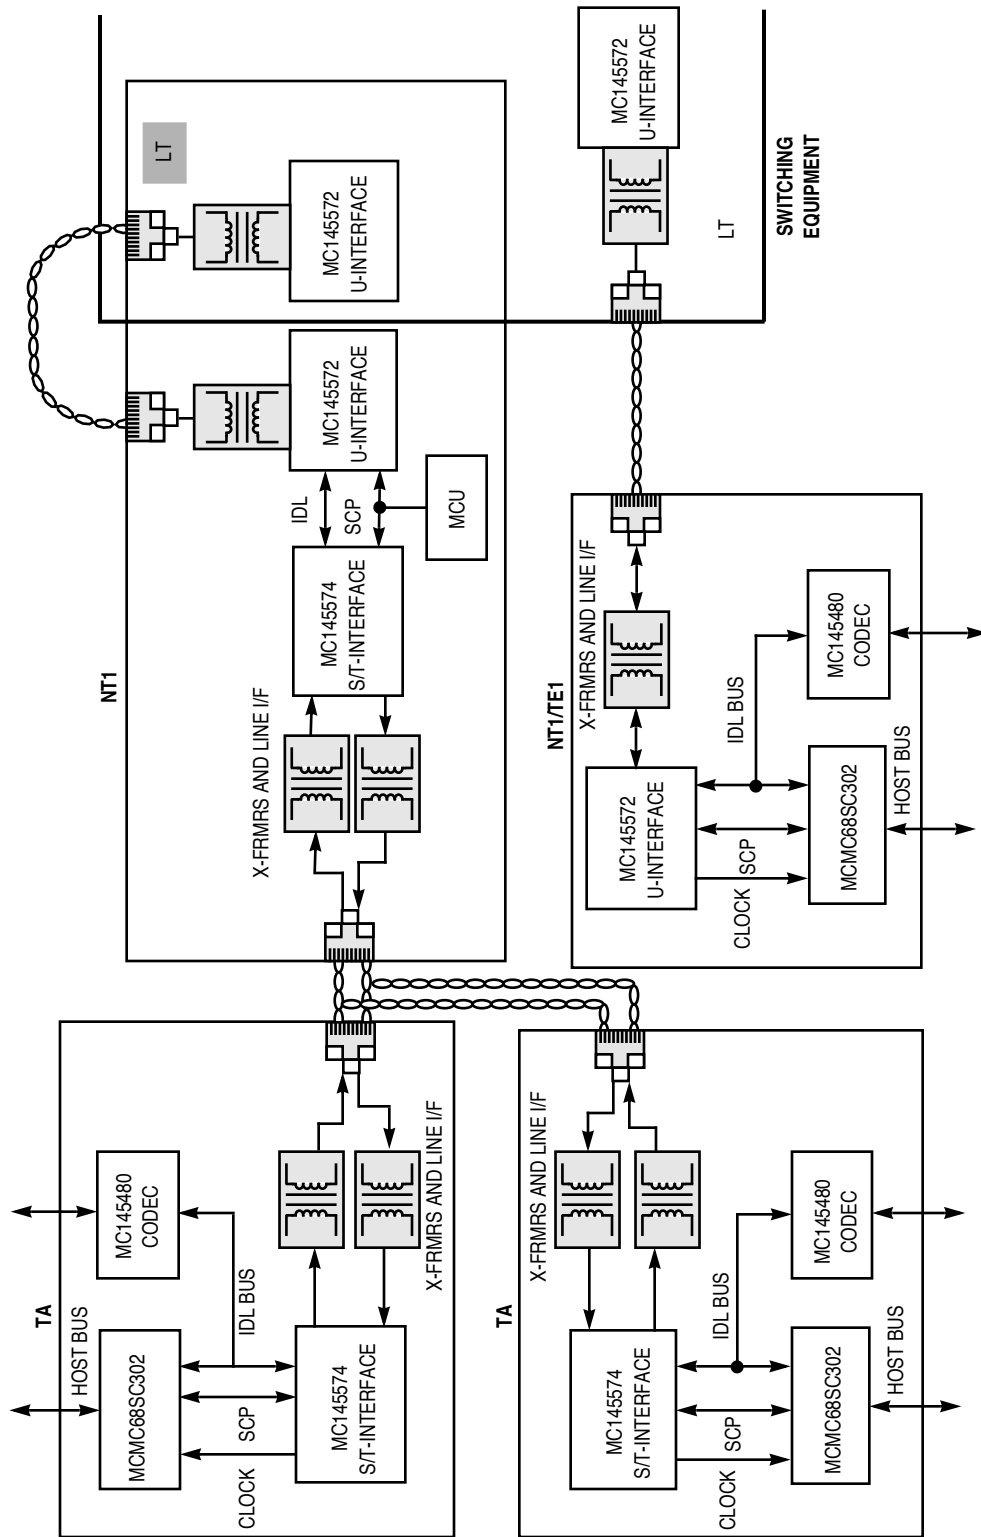

Figure 1-1. Motorola Silicon Applications and the MC145572EVK
The MC145572EVK U-Interface Transceiver Evaluation Kit can be used as an NT1 card or as an LT card. The left half of the card is the NT1, while the right half of the card is the LT. Alternatively, it can be thought of as having both ends of the two-wire U-Interface, extending from the customer premise (NT1) to the switch line card (LT) on a single, stand-alone evaluation board. Figure 1-1 shows a typical ISDN application using the MC145572 and the MC145574.